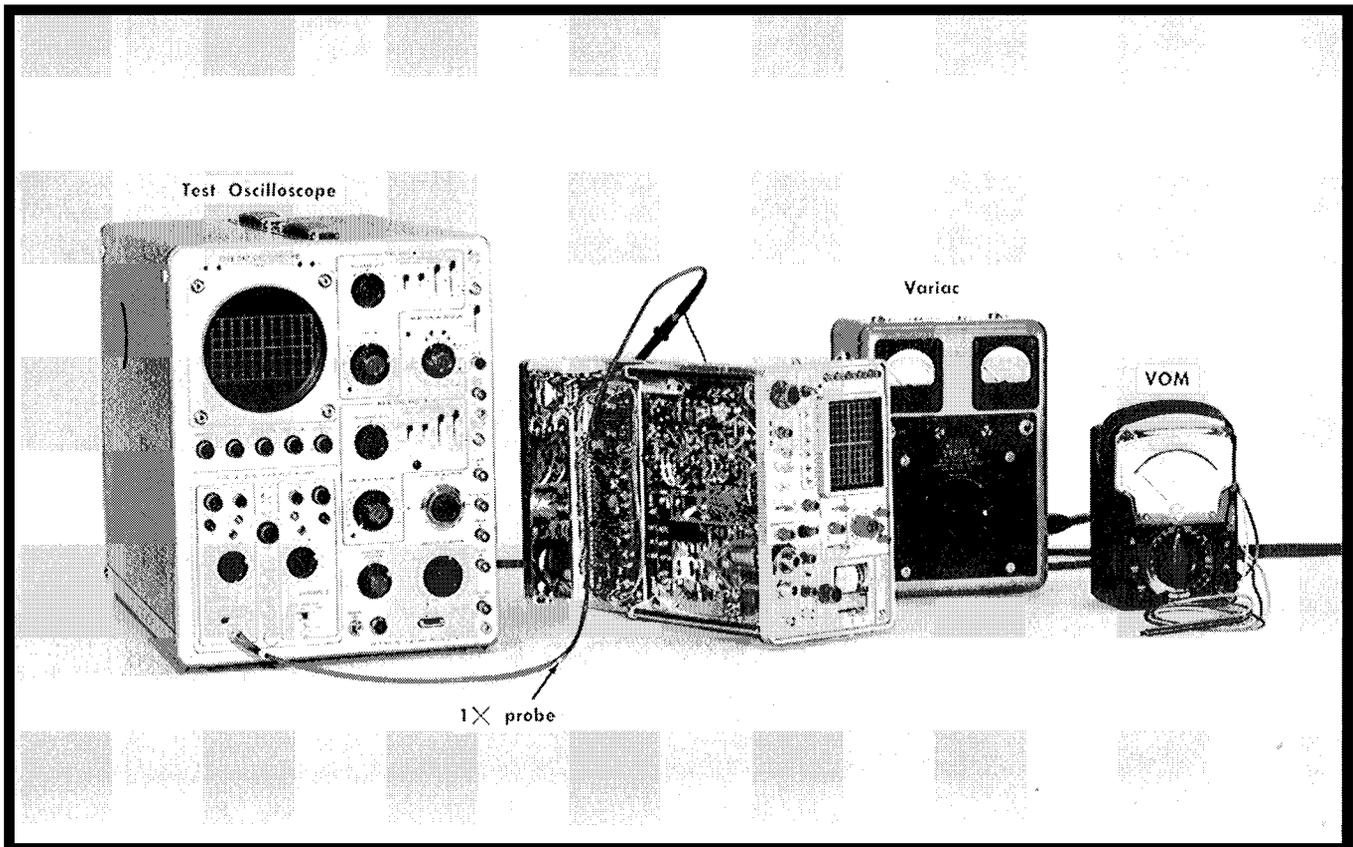

Fig. 6-4. Equipment setup for adjusting and checking the low and high voltage power supplies. Steps 1 through 6.
- a. Equipment setup is shown in Fig. 6-4.